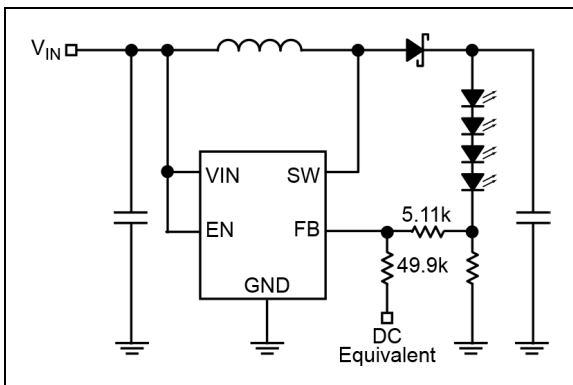

FIGURE 5-2: Continuous Dimming.
2. The continuous dimming control is implemented by applying a DC control voltage to the FB pin of the MIC2287C through a series resistor as shown in Figure 5-2. The LED intensity (current) can be dynamically varied applying a DC voltage to the FB pin. The DC voltage can come from a DAC signal, or a filtered PWM signal. The advantage of this approach is a high frequency PWM signal (>10kHz) that can be used to control LED intensity.